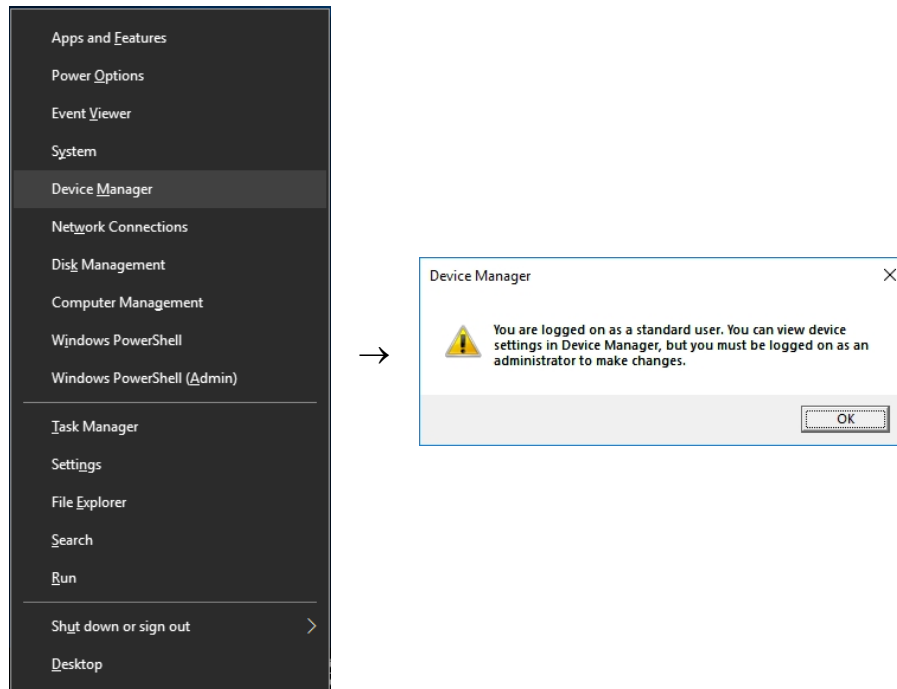

Figure 5. Launching Windows Device Manager
- ii. From the Quick Link menu, select Device Manager, as shown in Figure 5.
- iii. If a warning dialog appears about being logged on as a standard user, as shown in Figure 5, press the OK button to continue to Device Manager.